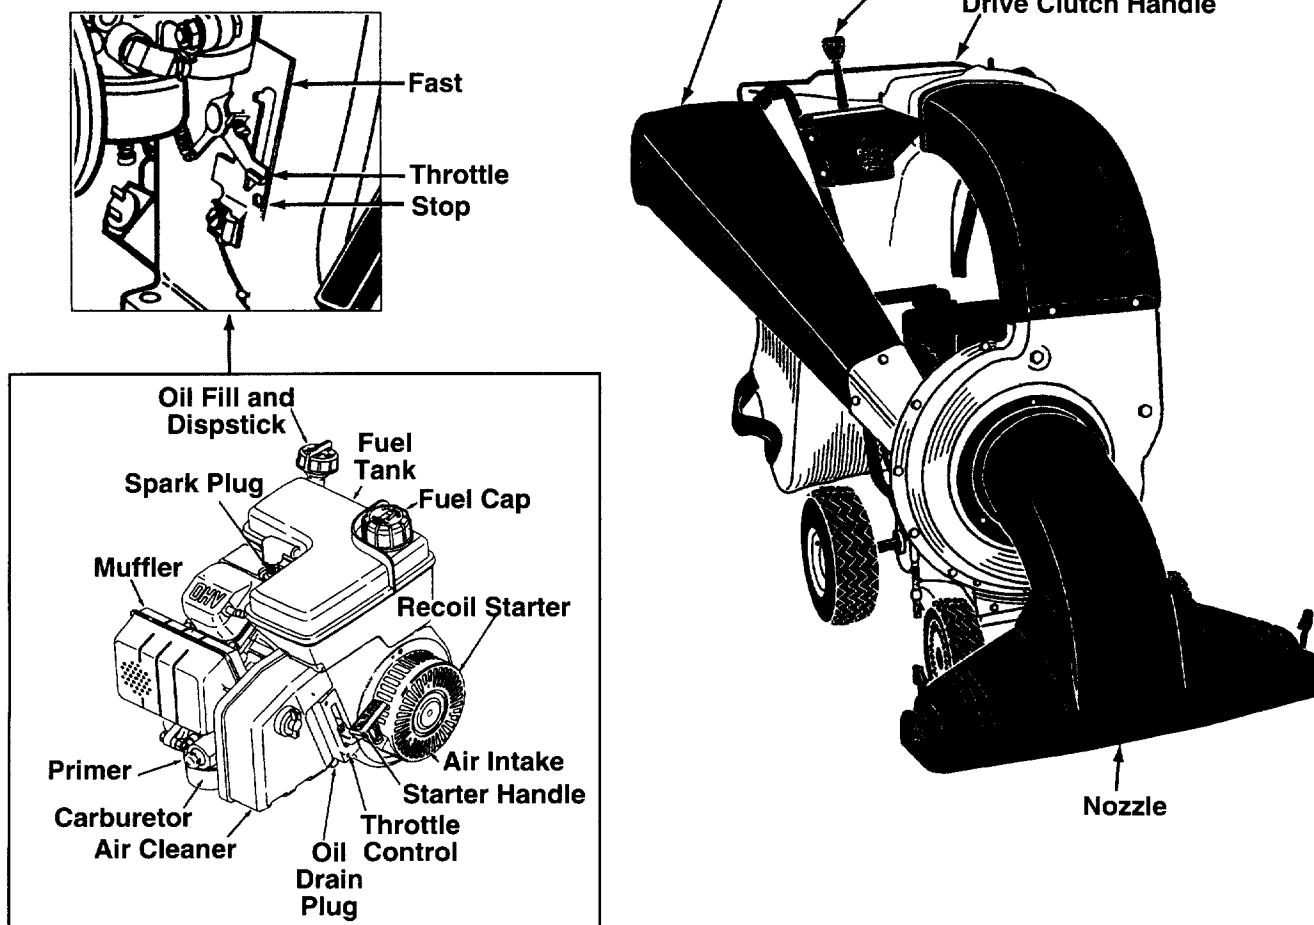

FIGURE 9
## OPERATING CONTROLS (See Figure 9)
- Move throttle control lever to STOP position. See figure 9.
- Attach spark plug wire and rubber boot to spark plug if necessary. See figure 9 for location.